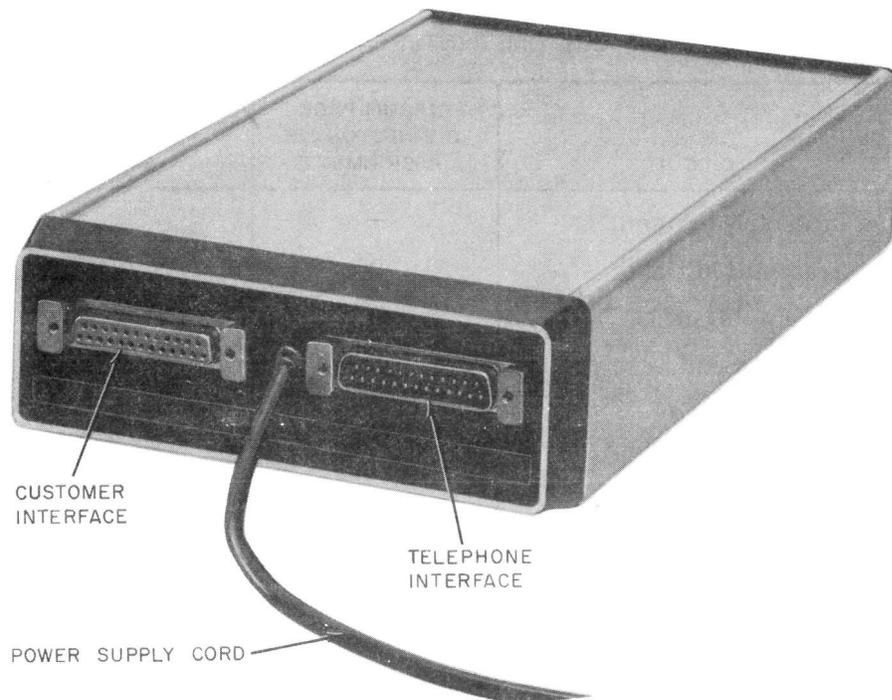

Fig. 3—DS 113DR-L1/2—Rear View
3.02 The customer interface conforms to EIA Standard RS-232-C. The 25-pin female connector is not part of the data set cord but is provided on the mounting (Fig. 3). The connector pin designations and functions are listed in Table A.